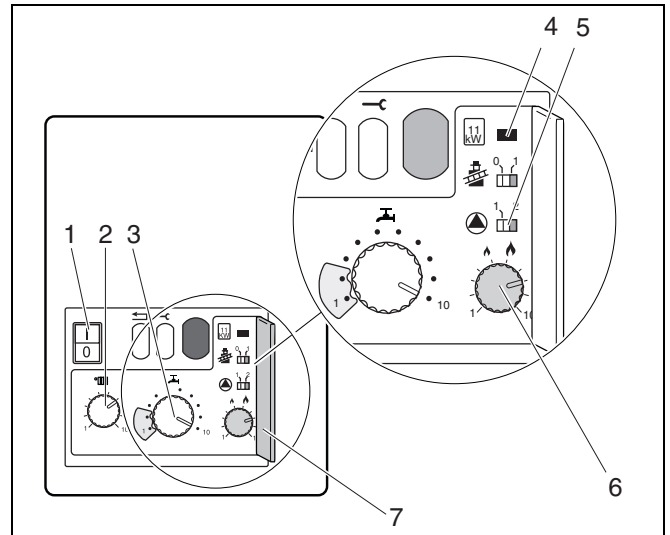

fig. 31 Controls
*Key to fig. 31*
- Set the controller (fig. 31, item 2) to the desired maximum flow temperature in accordance with the system design and table 6.
- Use the controller (fig. 31, item 3) to set the desired domestic hot water temperature in accordance with table 7.
- Open the cover of second control level (fig. 31, item 7).
- Set the heating capacity in accordance with the required heat demand (table 8) on the controller (fig. 31, item 6). Take into account the appropriate losses caused by the flue gas system (table 9).
- Move the switch  (fig. 31, item 4) to position "1".